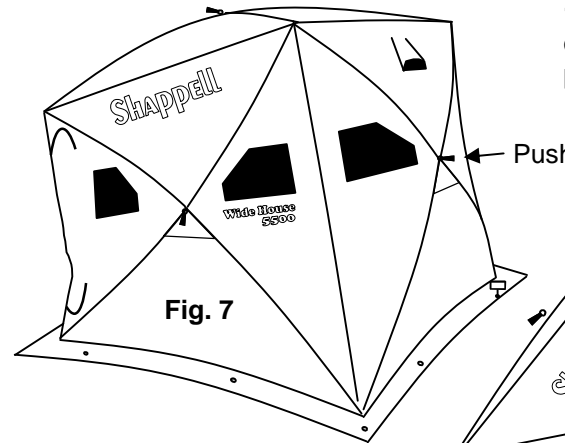

Fig. 7
1) Remove Ice Anchors, leaving one. Push in on Side Hub so it pops in. (Fig. 7)